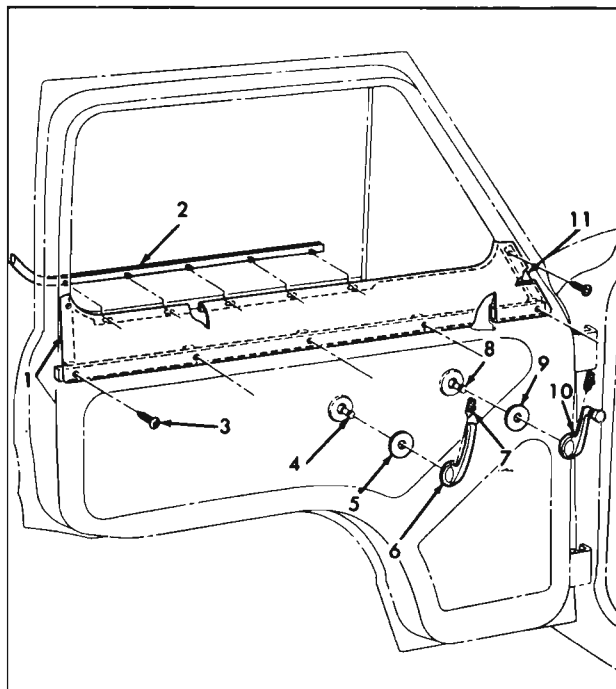

Fig. 10-44a—Trim Panel and Handles
4. Replace trim panel over sealing tape with seven retaining screws (fig. 10-44a).
1. Remove window regulator control handle. Handle is retained by a set screw (fig. 10-44a).
2. Remove trim panel from door. Trim panel is retained by seven screws (fig. 10-44a).
1. Remove trim panel retaining screws and remove trim panel (fig. 10-44a).